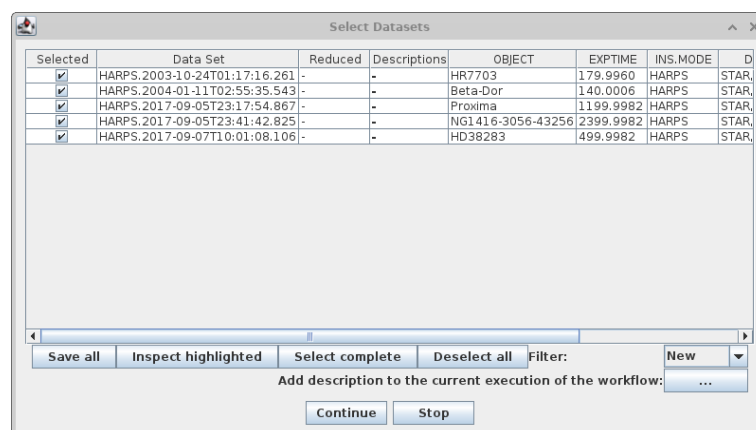

Figure 3.0.3: *The “Select Datasets” pop-up window.*
- The `Data Set Chooser` actor will be highlighted next and will display a “Select Datasets” window (see Figure 3.0.3) that lists the datasets along with the values of a selection of useful header keywords². The first column consists of a set of tick boxes which allow the user to select the datasets to be processed. By default all complete datasets which have not yet been reduced will be selected. A full description of the options offered by the `Data Set Chooser` will be presented in Section 6.3.2.